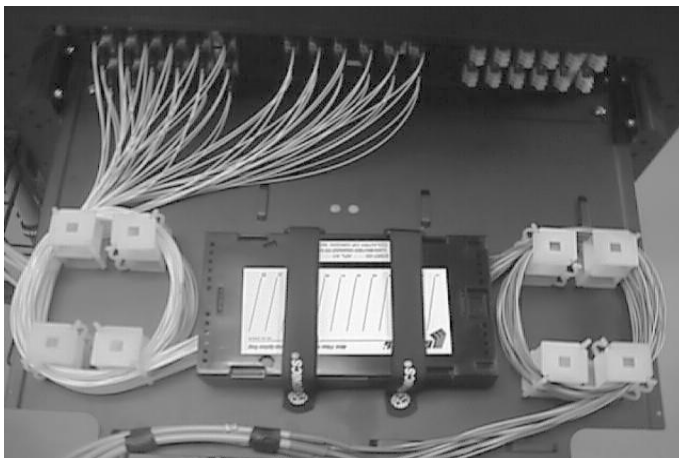

Figure 9
7.4) An example of a Patch and Splice wiring scheme is depicted in Figure 9.